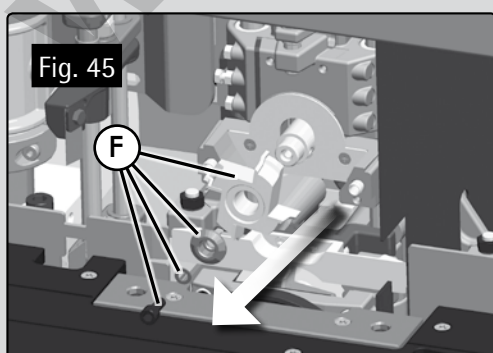

Fig. 45
- Remove the screw, washer, flange and bit F (Fig. 45)